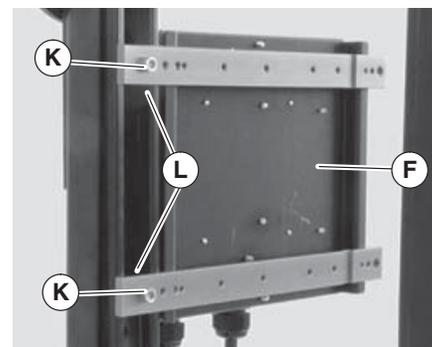

Figure 20
3. Attach controller (Figure 20, item F) to Spring Nuts (L) with screws (K).